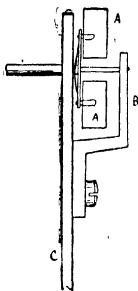
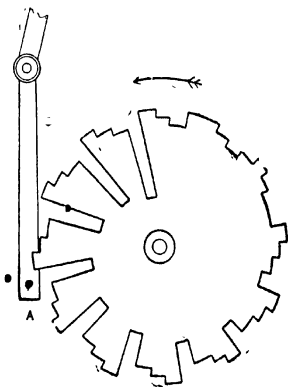

FIG. 86.—"Regulating Fly."
FIG. 87.—Hours and Quarters cut on one Snail.
**Regulating Fly.**—Good clocks that strike upon large gongs are often supplied with large regulating flies, to ensure slow running and give a means of securing slow or fast striking as desired. Fig. 86 shows such a fly. The fly pinion is made of extra length and comes through the back plate C, its back pivot being held by a large "fly cock" B. The pinion carries a cross arm and two square vanes, A, A, mounted upon studs that can be turned to any angle, like the fly of a musical box.
Fig. 87 shows such a snail. It is divided into twelve main sections, one for each hour. Each hour portion is again divided into four. The first small division allows the rack to fall one tooth to strike the first quarter at 15 minutes past the
No special directions are needed to put such a clock together. As usual, see that the hammer (in this case *both* hammers) are not "on the rise" when the striking train is stopped. In putting on the cannon pinion and cam, see that the lever B comes into action at the right time, and in putting on the snail take great care that the rack tail pin A, Fig. 87, falls freely to the bottom of each hour slot without binding. Clocks made on this plan should not "warn" much before the hour because of the narrowness of the slots in the snail, and are best made with no warning at all, on the plan of Fig. 86.